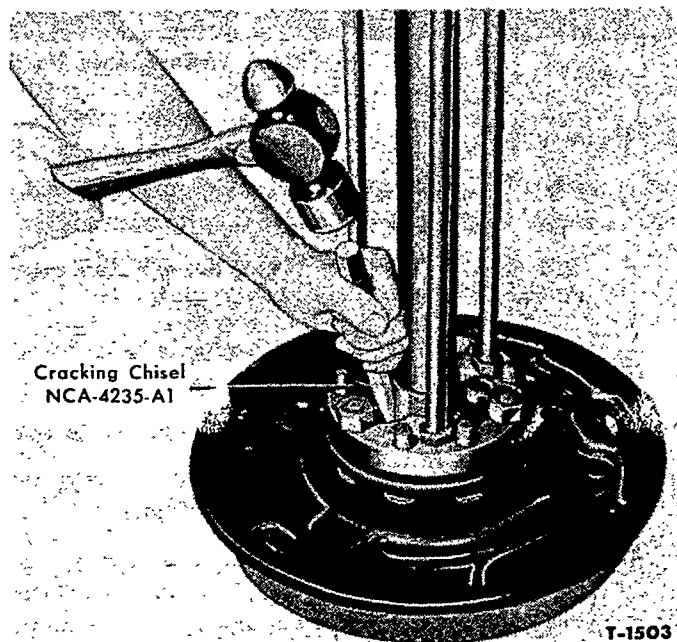

Figure 3—Cracking Chisel in Position to Split Bearing Retaining Collar
- Position the fixture so that the largest guide hole is over the drilled hole. Install the Cracking Chisel, NCA-4235-A. Figure 3, is the hole so that the round side of the chisel faces the bolt circle.